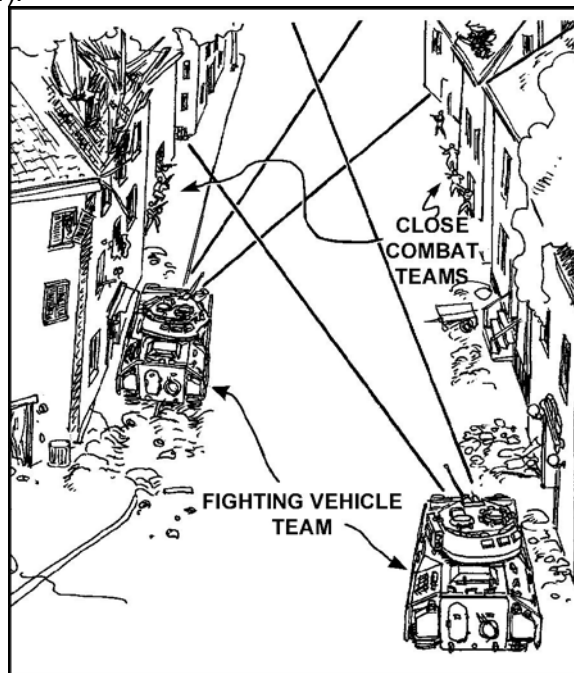

Figure 1. Cover for dismount teams.
- b. Guard against ground-level positions along the street. Assign two or three men to observe the upper floors of the buildings on the opposite side of the street. Fighting vehicle teams, overwatching the movement of the dismount teams, also travel staggered on alternate sides of the street (Figure 1).